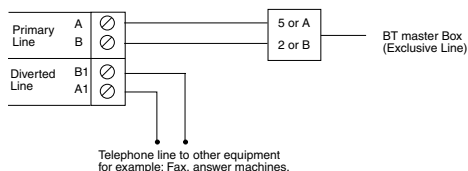

Figure 23. Connecting the Internal Communicator
- b) Otherwise (see Figure 23):